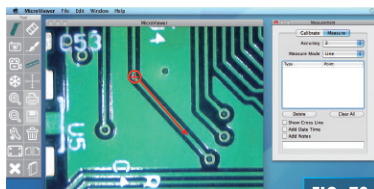

FIG. 73
4. Drag the mouse to the sending point of the measurement (Fig. 73).